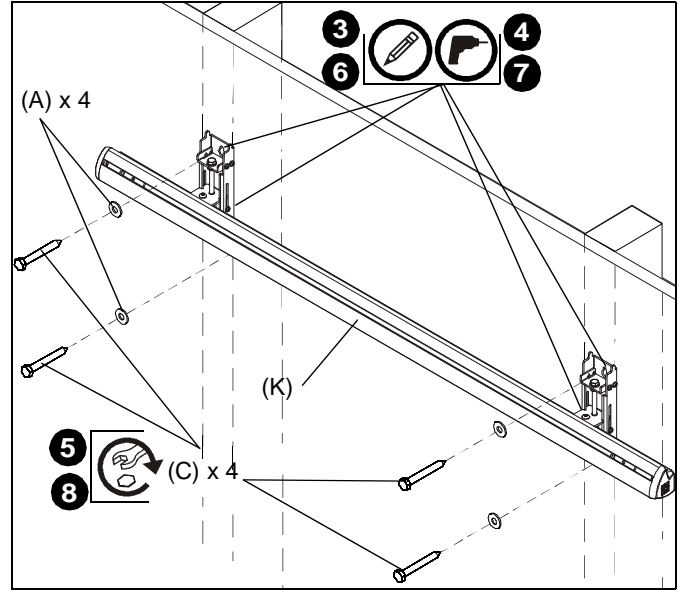

Figure 4
**NOTE:** The two WBM3E wall brackets on the wall assembly (K) must be mounted a **minimum** of 16" apart, or a **maximum** of 42" apart.
3. Using a level, mark the wall on each stud above existing chalkboard through **top** mounting hole in the wall assembly (K). (See Figure 4)
4. Drill one 1/8" pilot hole in each stud. (See Figure 4)
5. Use two 1/4-20 x 2-1/2" lag bolts (C) and two 1/4" flat washers (A) to attach wall assembly (K) to wall. (See Figure 4)
6. Mark the wall through the **lower** mounting hole in the wall assembly (K). (See Figure 4)
7. Drill one 1/8" pilot hole in each stud through lower mounting hole in wall assembly (K). (See Figure 4)
8. Use two 1/4-20 x 2-1/2" lag bolts (C) and two 1/4" flat washers (A) to attach wall assembly (K) to wall. (See Figure 4)